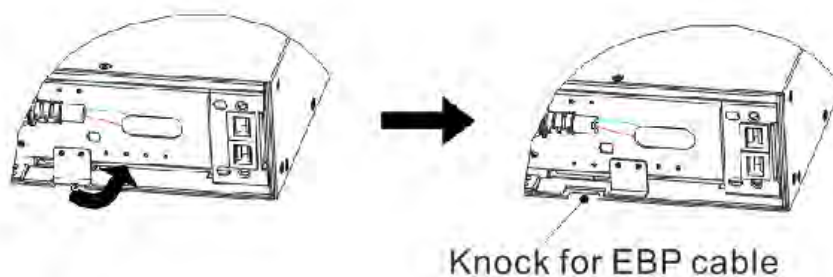

FIG.12 Removing the UPS Cable Knockout
3. For the bottom (or only) EBP, remove the EBP cable knockout on the top of the EBP front cover. See FIG. 12 for the location of the top EBP cable knockout.
4. If you are installing more than one EBP, for each additional EBP remove the EBP cable knockout on the top and bottom of the EBP front cover. See FIG. 12 for the location of the EBP cable knockouts.
5. Plug the EBP cable(s) into the battery connector(s) as shown in FIG. 12. Up to four EBPS may be connected to the UPS. Connect black to black,. Press the connector tightly together to ensure a proper connection.